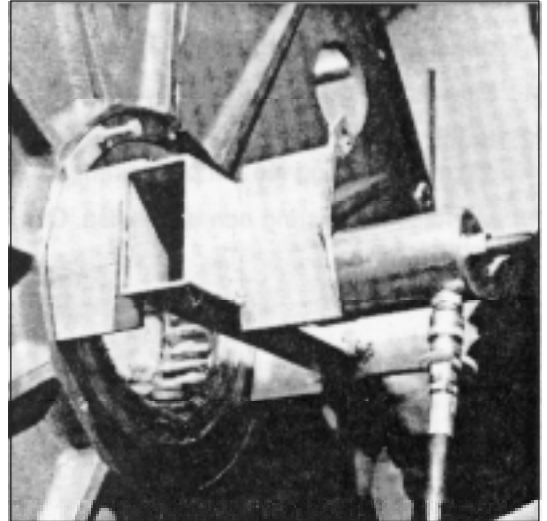

Figure 11. Pressing out the bearing
23. Install the yoke with the wide opening against the bearing, see figure 11.
24. Install the beam, pulling rod and hydraulic piston. Lock the hydraulic piston securely in place, see figure 11.